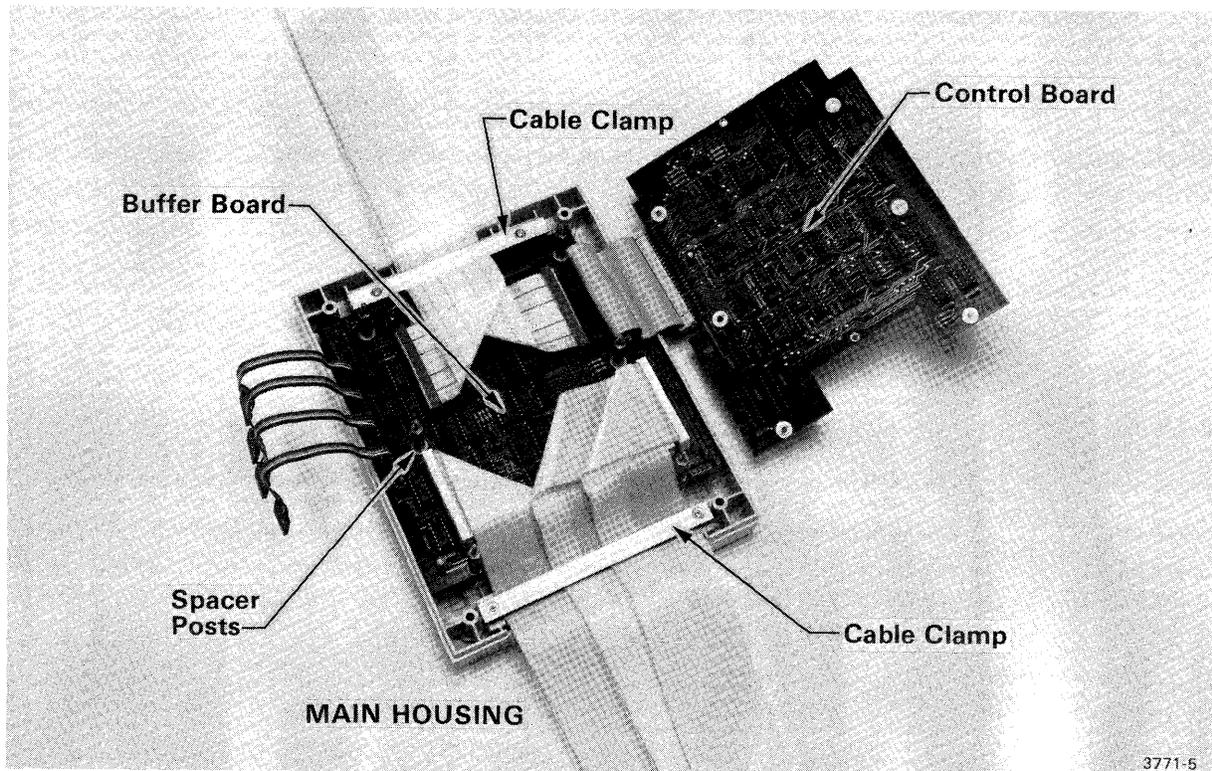

Fig. 2-2. Access to Control board and Buffer board.
7. Lift the Control board away from the main housing and drape it to one side, as shown in Fig. 2-2. Take care not to damage the interconnecting ribbon cable.